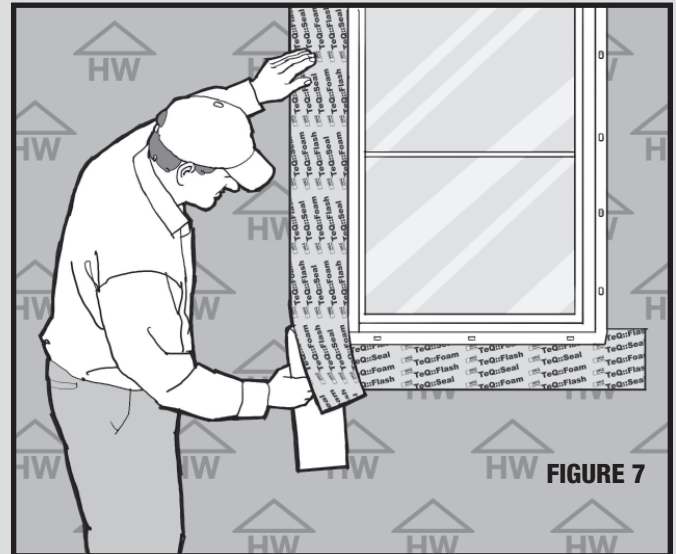

FIGURE 7
4.2.1. Install jamb flashing so that the flashing covers the nailing flange and is tight to window frame edge. (Figure 7)